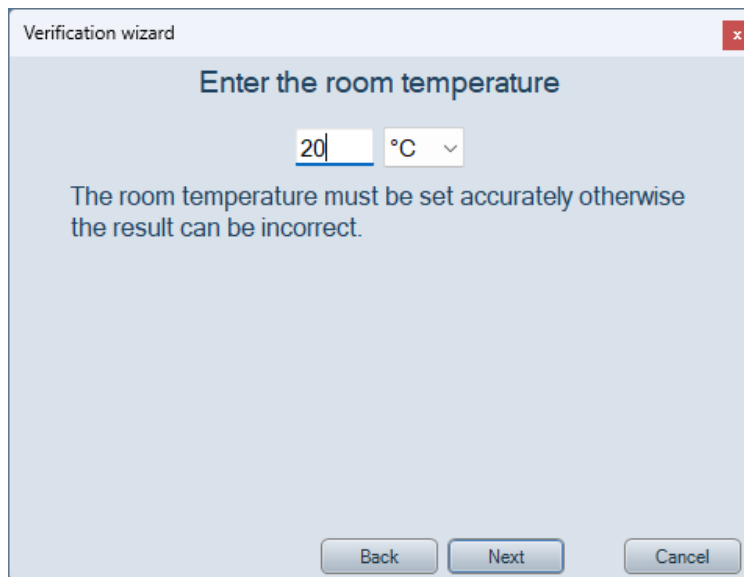

Figure 11-7 Enter room temperature.
- Enter the room temperature, select °C or °F and click *Next*, Figure 11-7.